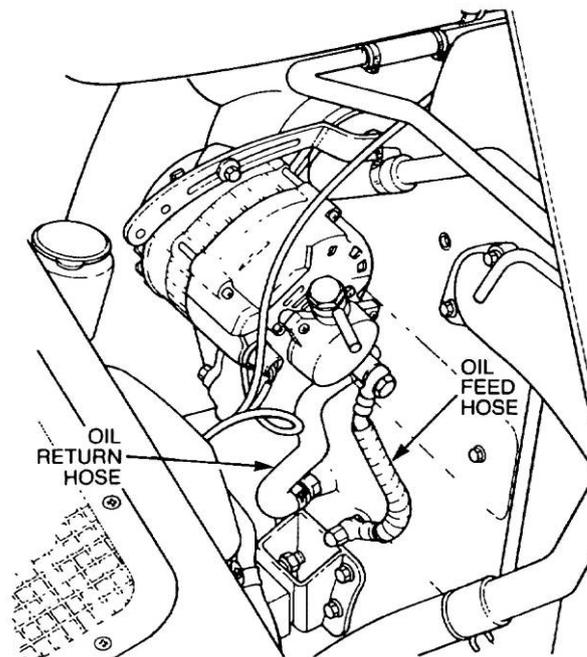

Figure 59 Installing the Vacuum Pump Oil Hoses
- nnn.** Install the vacuum pump oil feed and oil return hose adapters onto the engine block. Connect the oil feed and return hoses (Figure 59), ensuring that the hose connections are secure.